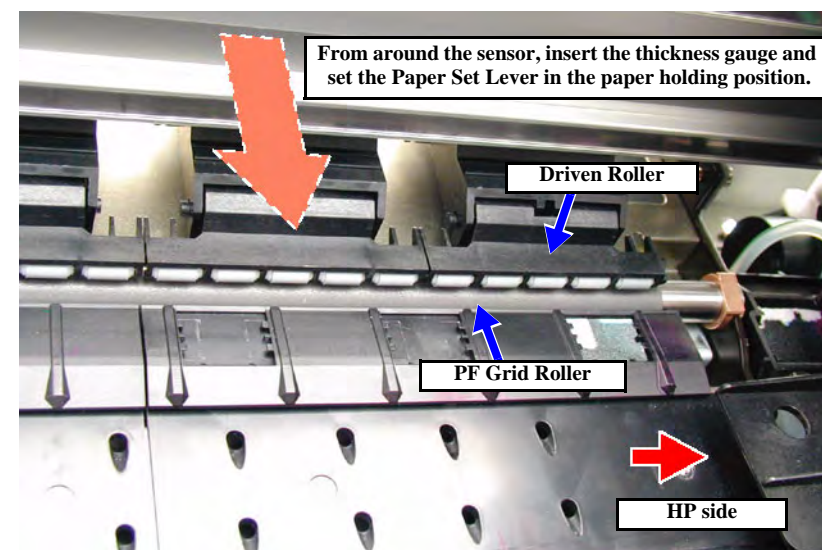

Figure 5-66. Gauge Setting Position
6. Set the 0.4-mm thickness gauge between the PF Grid Roller and the Driven Roller near the detection arm on the paper transport path, and bring down the Paper Set Lever toward you (to the “paper holding” position). (See Figure 5-66)